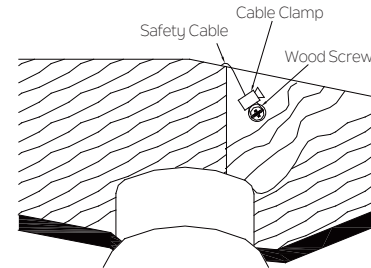

Fig. 12
Step2. Insert the safety cable through the mounting bracket and one of the holes in the outlet box into the ceiling. Adjust the length of the safety cable to reach the screw and flat washer by pulling the extra cable through the cable clamp until the overall length is correct, put the end of the cable back through the cable clamp, forming a loop at the end of the cable. Tighten the cable clamp securely. Now, put the loop in the end of the safety cable over the wood screw and under the flat washer. Tighten the wood screw securely. (Fig.12)